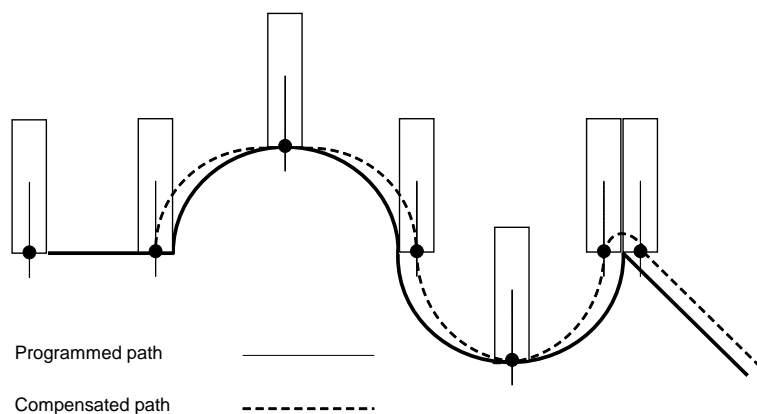

Fig.2 Tool Positioning for Cutter Thickness Compensation
- **Cutter thickness compensation:** it is tangential to a programmed profile (fig 2). Usually the tool direction is in the same plane as the profile